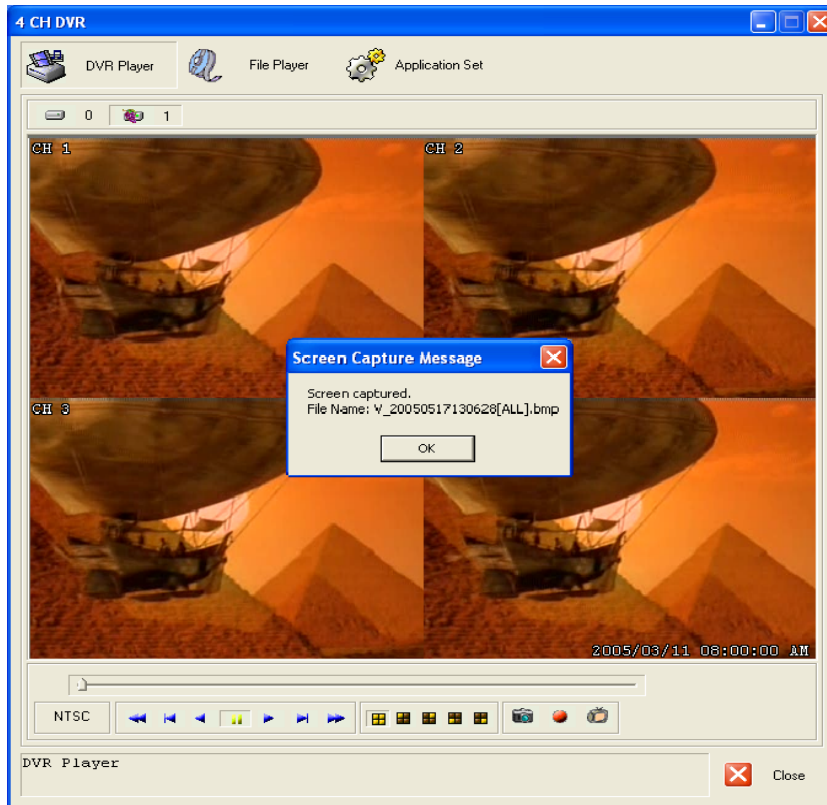

Figure 2
-  : Click this button to capture images as BMP file, graphic shown by “Figure 2” will be shown and PC Player Software auto creates a storage content “Capture MYS”.